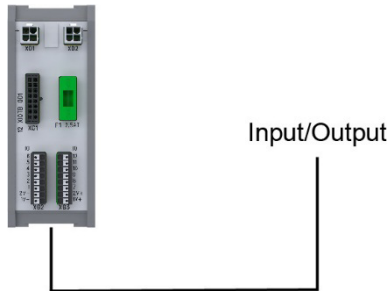

Fig. 6-3: Control inputs/outputs to XIOTB
2. Connect the incoming cables of the control inputs/outputs to terminals XG2 and XG3 of terminal block XIOTB (→ Fig. 6-3 and chapter 6.3, page 37).